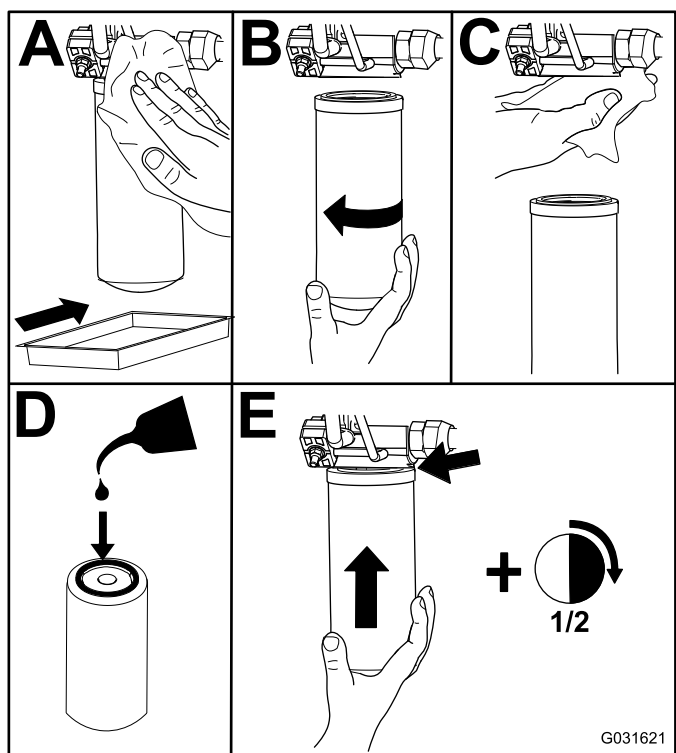

Figure 101
2. Replace the hydraulic filters (Figure 101).